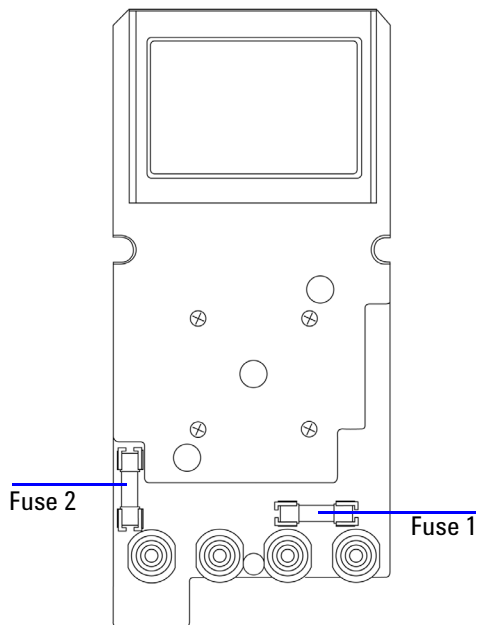

Figure 6-3 Fuse replacement
- 4 Take out the circuit board as shown in Figure 6-3.